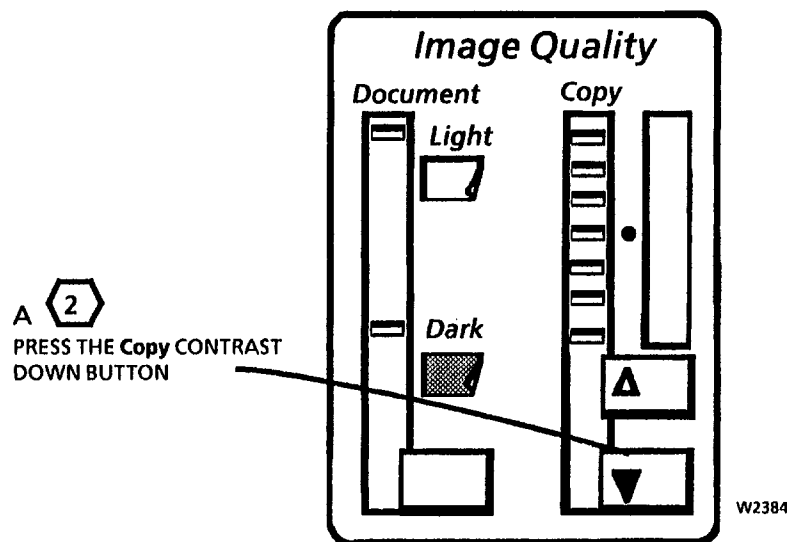

Figure 1. Increase the image density
3. (Figure 1): Increase the image density.